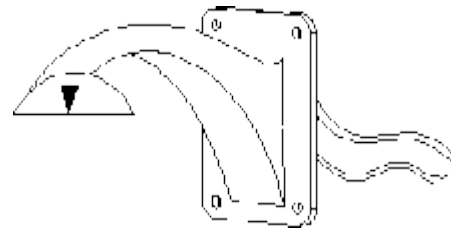

Figure 9
- c) Put the bracket on the wall and tight the four M8 screws as Figure 9.